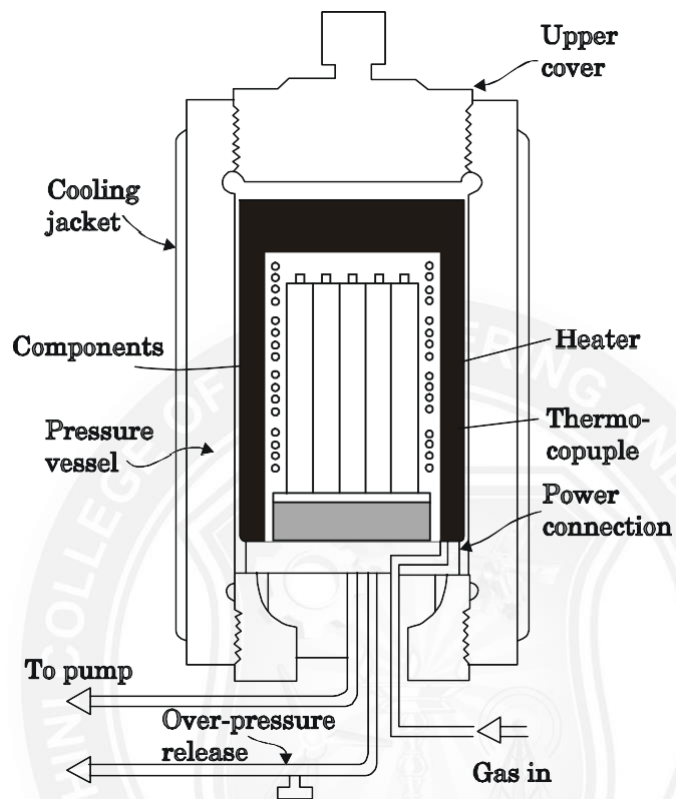

Fig. 4.5.3- Hot isostatic pressing apparatus
**The hot isostatic press (HIP) uses the simultaneous application of heat and pressure. We refer to this process as HIPing and the product as being HIPed. A furnace is constructed within a high-pressure vessel and the objects to be pressed are placed inside. Figure 4.5.3 shows a typical HIP arrangement.**